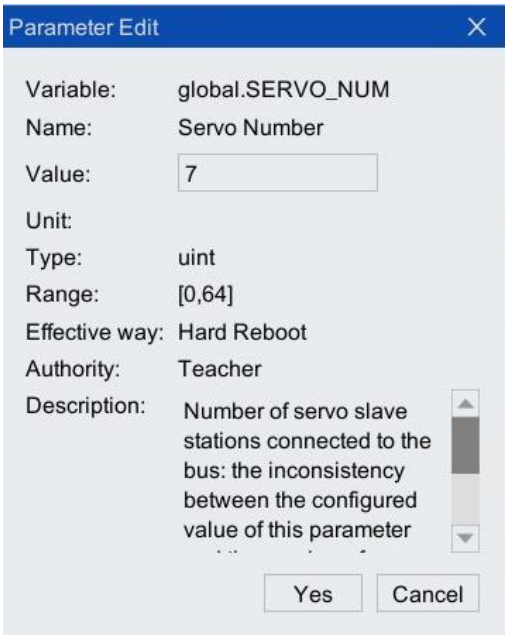

Figure 6-2 Server slave number configuration interface
Step2. To modify the configuration, click on the line where [SERVO_NUM (Servo Number)] is located, click <Edit>, and the dialog box as shown in Figure 6-2 will pop up. You can modify the parameters in [Value], and click <Yes> after the modification is completed. See Table 6-1 for parameter description.